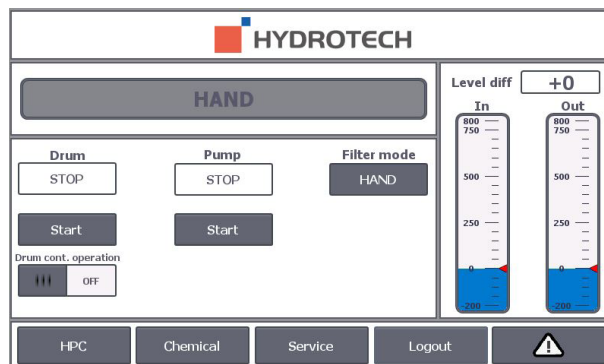
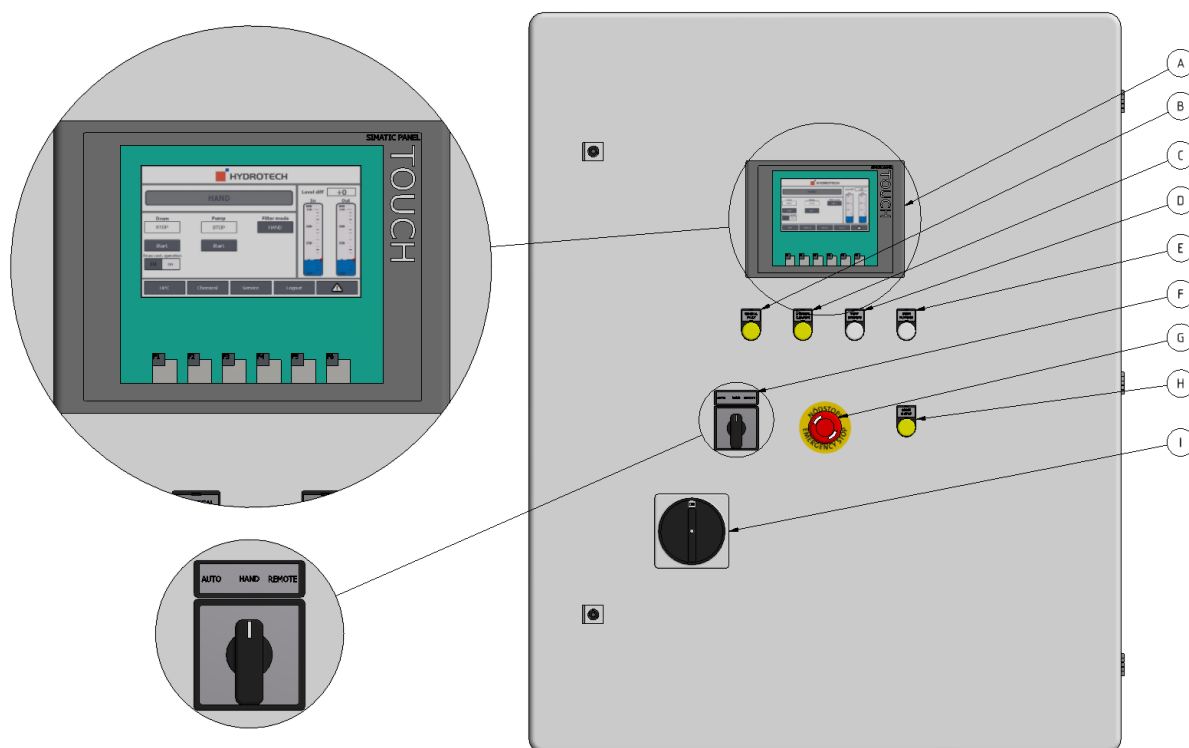

Figure 5.1 Main menu on electrical cabinet operator panel.
Figure 5.2 Front of the control cabinet.
2. Set the mode selector to the HAND position (see F in Figure 5.2).
3. Set the main power switch to the ON (1) position (see I in Figure 5.2).
4. Start the drum rotation on the operator panel main menu (see Figure 5.1 and Figure 5.2).
6. When the water level inside the filter tank/chamber exceeds the suction pipe of the pump (or, the suction pipe if a CR- pump has been installed), the pump must be started by pressing “Start” on the operator panel main menu (see Figure 5.1). NB Also read section 2.7.
Turn the mode selector to select the appropriate operating mode (see Figure 5.2, detail F).
1. Turn the mode selector shown in Figure 5.2 to the HAND position.